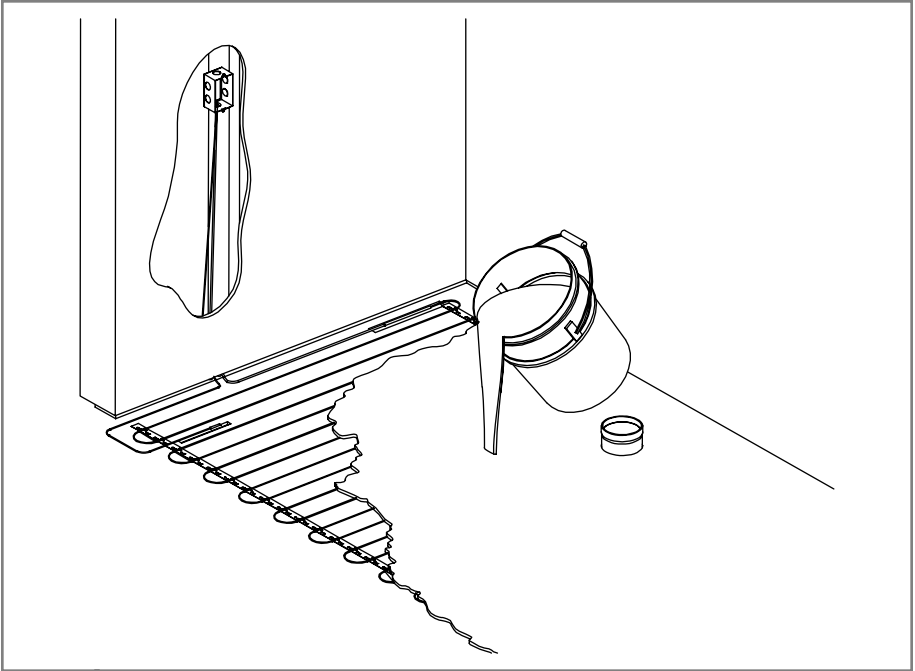

Fig. 4.6
- Completely embed the heating cable in self-levelling cement (fig. 4.6). It is crucial that the ENTIRE heating cable (BLACK) be embedded. No part of the heating cable (BLACK) must be exposed. (A small part [top] of the heating cable may be exposed at the surface of the self-levelling cement ONLY IF a ceramic glue is used afterward AND embeds that part);